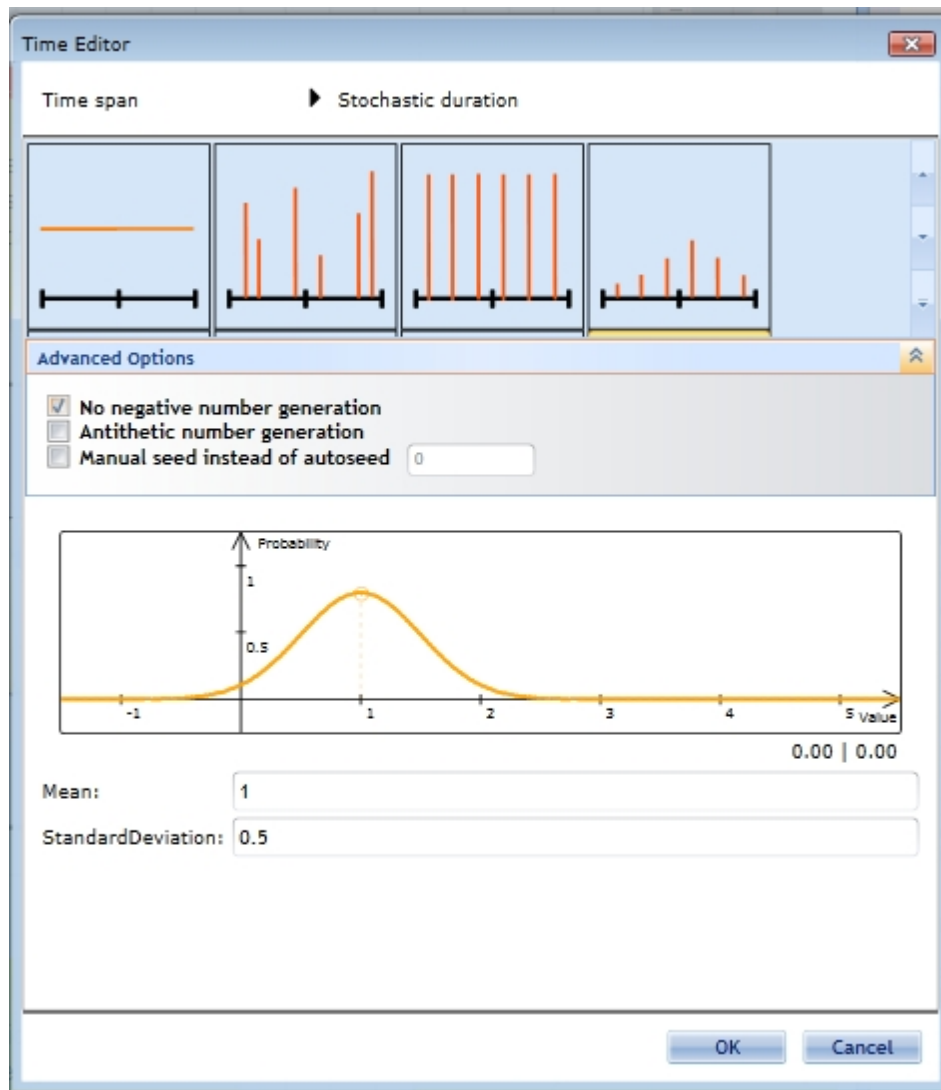

Figure 2: IYOPRO's Simulation Time Editor (in Stochastic Distribution view)
4. The Time Editor will show up (See the Figure 2 below and see Assigning Inter-arrival Times for detailed information)